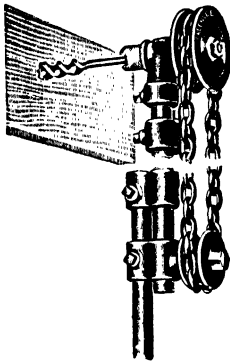
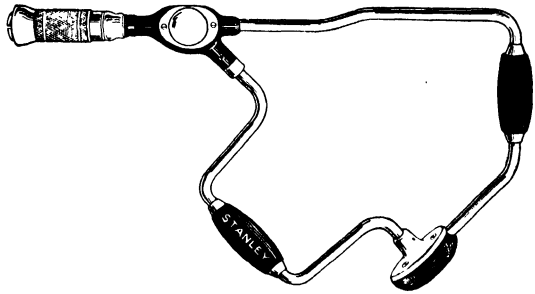

Fig. 31. Joist Boring Machine
Fig. 32. Corner Bit or Angle Brace
**Boring Joists.** Joists can be bored best by the use of a regular joist boring machine, Fig. 31. With this tool the boring can be done from the floor and the holes are bored horizontally, making the pulling-in of the cables easier than when the holes are aslant, as is the case when the boring is done with a brace and bit. The next choice of tool is the corner bit or angle brace, Fig. 32. The holes will be somewhat aslant, the degree being dependent on how far away from the edge of the joists the holes are bored.